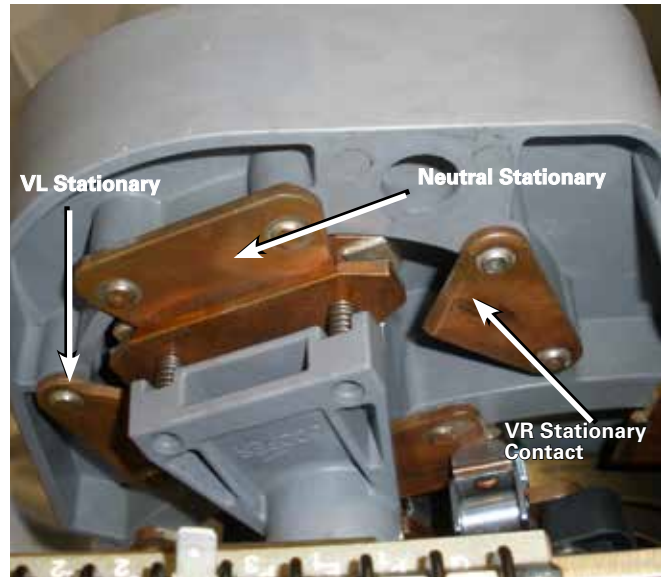

Figure 96. Reversing stationary contact.
1. Each QD5 tap-changer has one VR reversing stationary contact. Note that in the photo, the nylon separating bar has been removed. It is not necessary to remove the bar to perform these steps. See Figure 96.